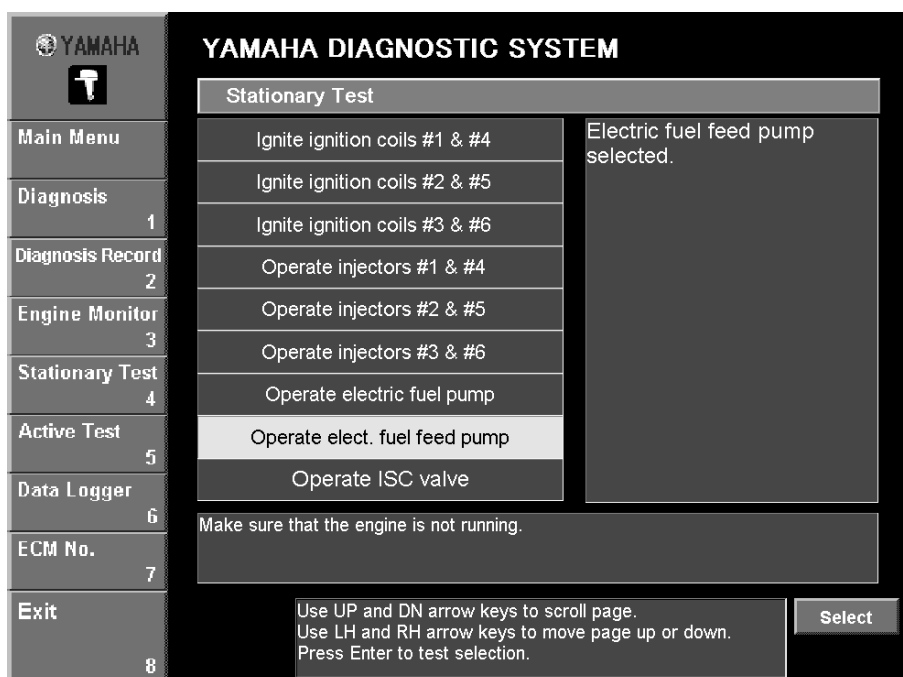

Fig. 36
1. Select the test to be performed, and then click the **Select** button or press the Enter key on your keyboard. (Fig. 36)